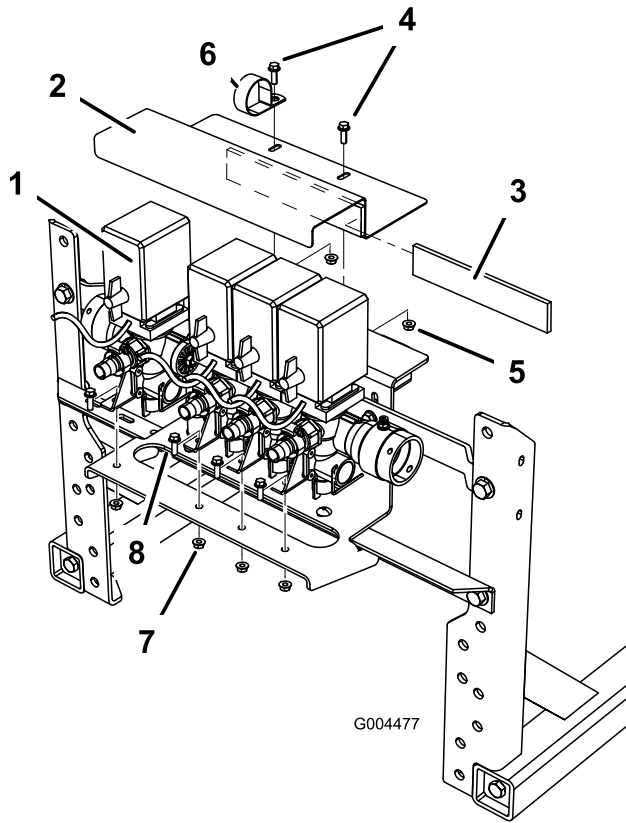

Figure 11
4. Secure valve assembly to the valve bracket support using the fasteners removed previously (Figure 11).
5. Install the foam strip to the upper valve bracket (Figure 11).